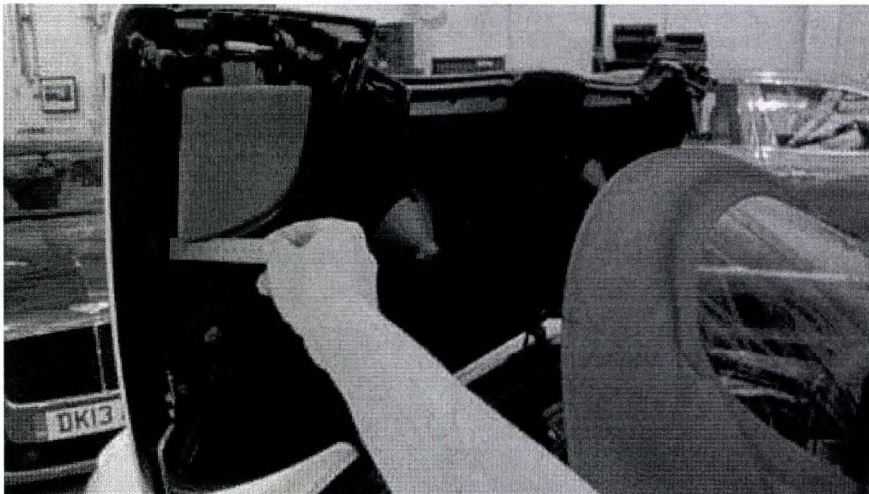

Figure 3
5. Referencing figures 3, 4 and 5 take a measurement between point (A), C flap obscuration lip, and (B), tonneau brightware securing bolt head. The correct specification for this measurement is 74mm to 90mm. If this measurement is not to specification or the C flaps are out of synchronisation or judder during operation then refer to TPI 2033467 to carry out C flap Bowden cable replacement. If the C flap is to specification then perform the revised clip arrangement